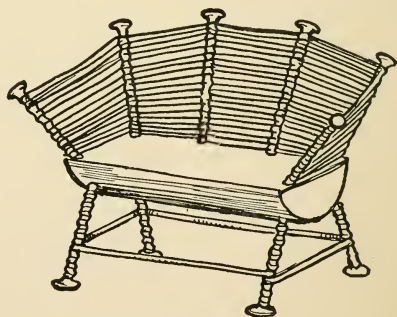

FIG. 404. — Sofa.
**The Sofa**, illustrated in Fig. 404, is made after the same manner. Split a straight cork lengthwise for the seat, placing it flat-side up, and stick pins around three edges of it upon which to wind the worsted.